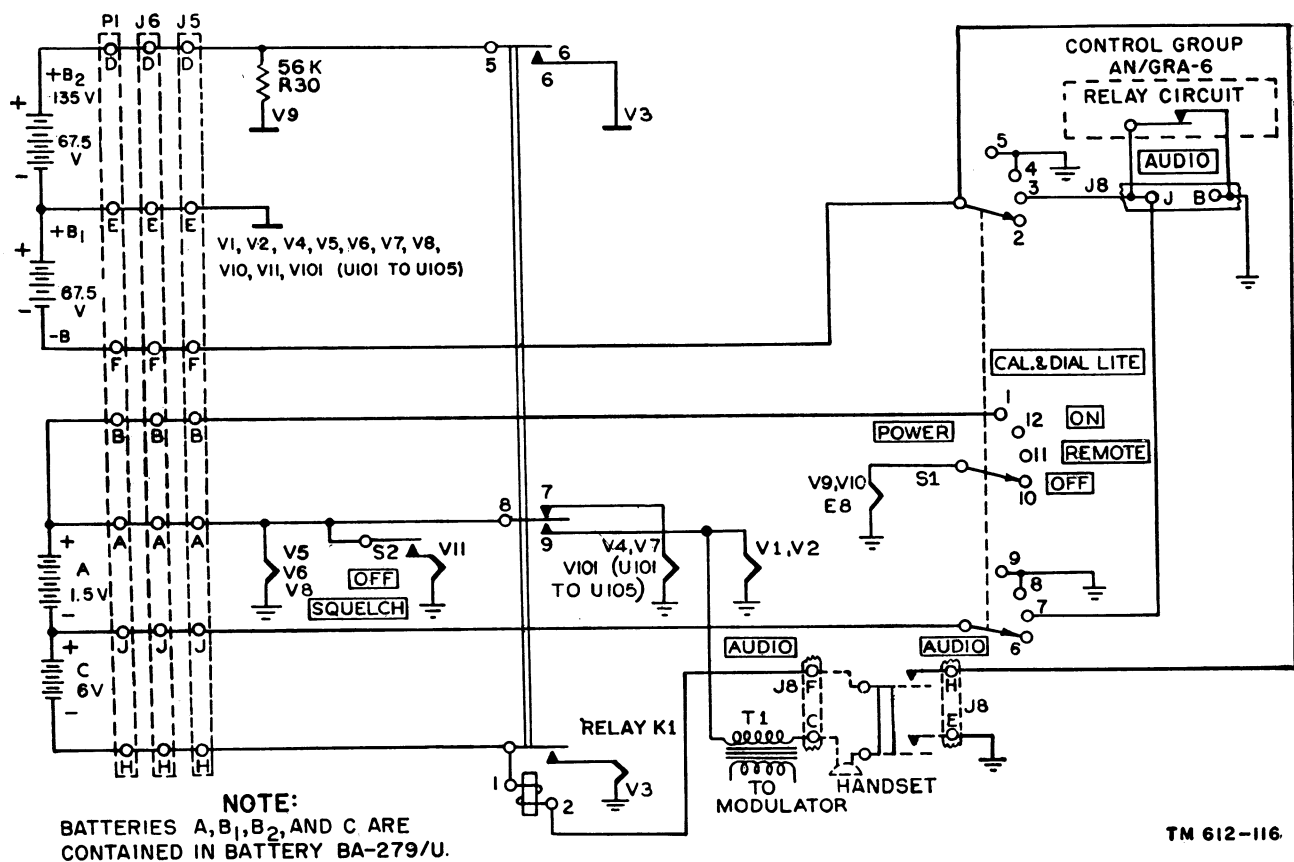

Figure 22. Control circuit diagram.
- (1) Cable improperly plugged into power source.
- (2) Faulty power source.
- (3) Worn, broken, or disconnected cords and plugs.
- (4) Relay contacts burned because of overloads.
- (5) Wires or solder joints broken because of excessive vibration.
- (6) Defective tubes.
- (7) Inactive (cracked or broken) crystals.
a. GENERAL. System sectionalization consists of determining whether the trouble is in the transmitter, receiver, antenna, or power source. The control circuit diagram (fig. 22) will assist in sectionalizing the trouble. This diagram is described in detail in paragraph 39.
- (1) Operate the radio set over its entire tuning range and observe its performance. See the equipment performance checklist (par. 37) for normal test indications, using a similar radio set which is known to be good.
- (2) If the entire radio set is dead, the trouble is probably in the power source or in the leads to the set. Replace the faulty battery or check the leads, as necessary. If Amplifier Power Supply AM-598/U is being used, check it as indicated in paragraph 43. Check the handset and replace it if necessary.
- (3) If only the transmitter or receiver is dead, the trouble is in that component and is probably a tube or a relay. If the simple remedies indicated in *b* and *c* below do not correct the trouble, higher echelon maintenance will be required.
39. Control Circuits (fig. 22)